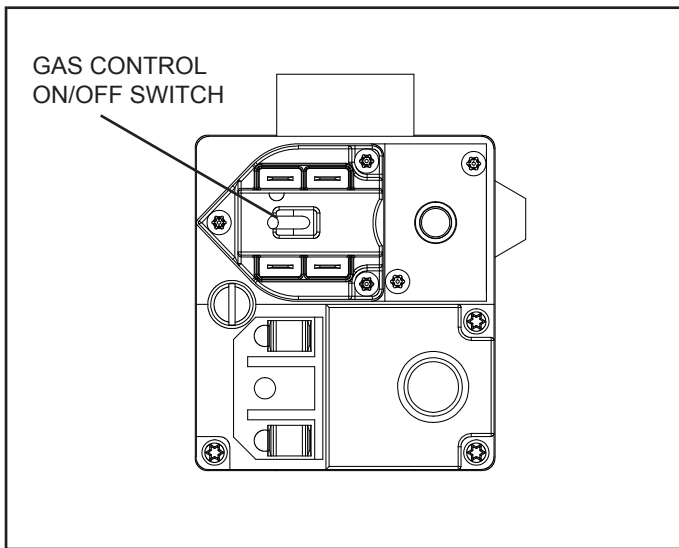

Figure 30. Gas Valve
5. Toggle gas control switch to OFF position. See “Figure 30. Gas Valve” on page 28.